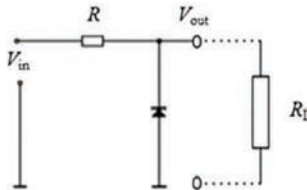

Figure 3.45 Ch 3 - No. 17, self-test
17. A negative clipper shown in Figure 3.45 has an RMS input voltage of 6.5 V, R_1 is 4 k Ω , and the load resistor is 40 k Ω . What is the peak output voltage for the clipper? (Assuming a silicon diode)